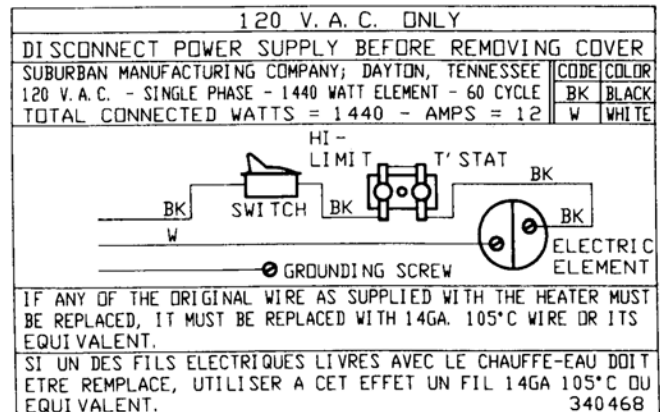

Figure 6
C. Check rating plate and wiring diagram (Figure 6) before proceeding. Install a fused safety switch or circuit breaker of adequate capacity between heater and electrical power source. Attach the black and white wires from the fused switch or breaker to corresponding colored wires in heater junction box. A green wire from a well grounded source must be attached to the green nut in the junction box.